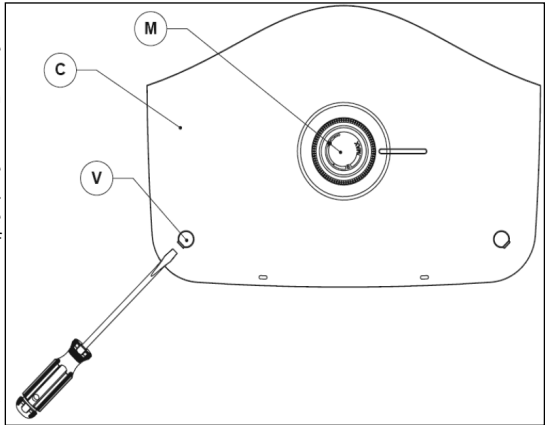

Figure 5 - Water Heater Cover and Thermostat Detail
The temperature of the hot water is adjusted by rotating the knob (M, see Figure 5) located on the front cover.
- Pry off the round knob cover plate (Figure 5, M) with a small flat head screwdriver.
- Pry off the screw covers (Figure 5, V) with a small flat head screwdriver.
- The cover (Figure 5, C) can now be removed by pulling out its left hand edge. When reassembling, work in the opposite way, being careful to insert the tongue of the cover into the slot.